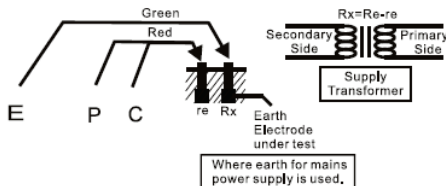

Fig.2
1. This method is recommended where an earth resistance higher than  $10\Omega$  is measured or where it is not possible to drive auxiliary earth spikes. An approximate value of earth resistance can be obtained by the two wire system where is shown in Fig. 2.